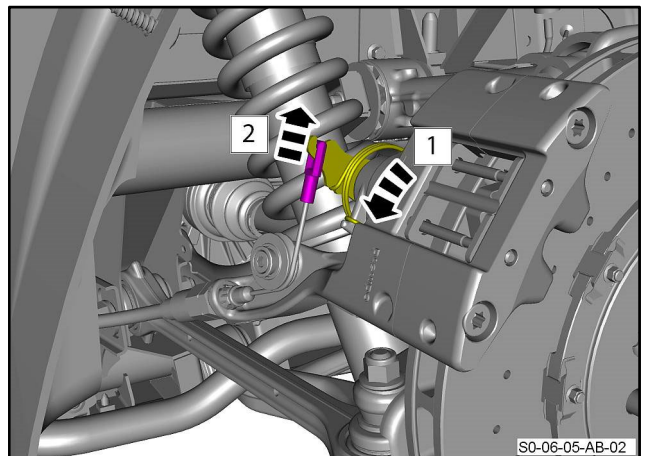

Figure 3
4. Release the park brake cable eyelet from the park brake caliper lever (refer to Figure 3).